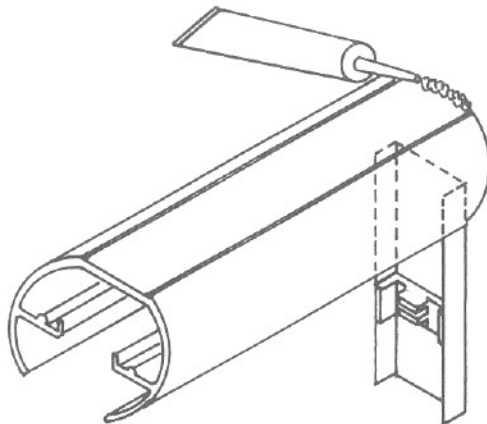

FIGURE 6
6. **INSTALLATION OF HEADER:** The header caps over the wall jambs to stabilize the unit. From the top bring header down over jamb until it comes to a secure stop. SEE FIGURE 6
For added protection, apply a bead of adhesive where the two ends of the header meet the walls. Use the notch on the upper surface of the header to conceal the caulk. SEE FIGURE 6